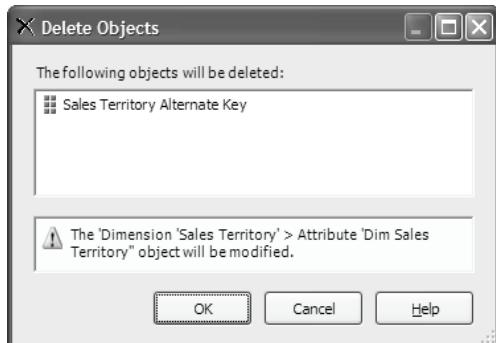

Figure 4.2 To reduce clutter and optimize UDM, review and delete the attributes you don't need.
1. The Sales Territory Alternate Key doesn't convey any useful information to the end users. Select it and press the Delete key to remove it. The Dimension Designer displays the Delete Objects dialog (Figure 4.2). The dialog warns you if the attribute to be deleted is related to other attributes. In our case, the Dim Sales Territory dimension key will be affected only because the Sales Territory Alternate Key is defined as its member property. Click OK to confirm.